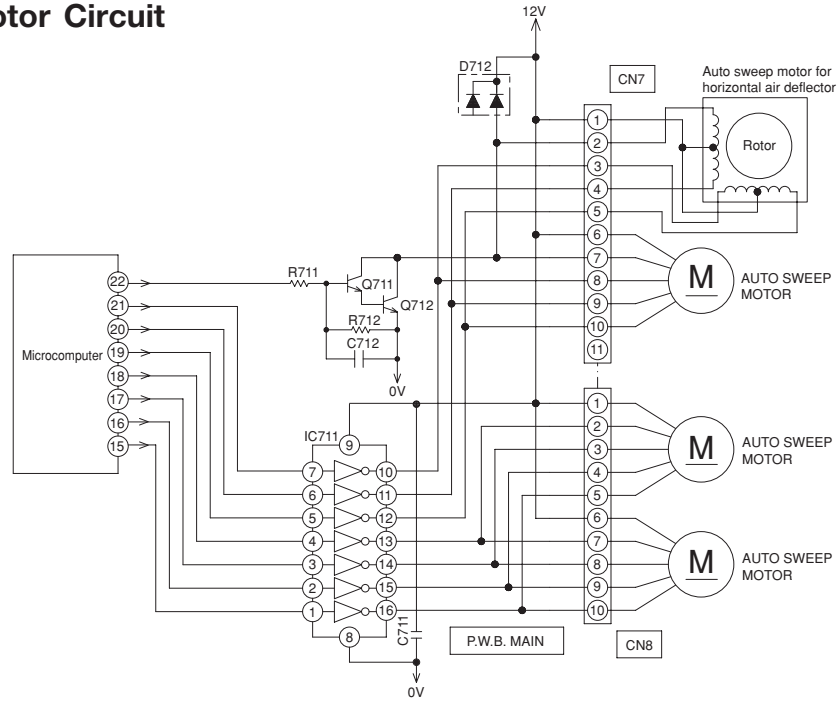
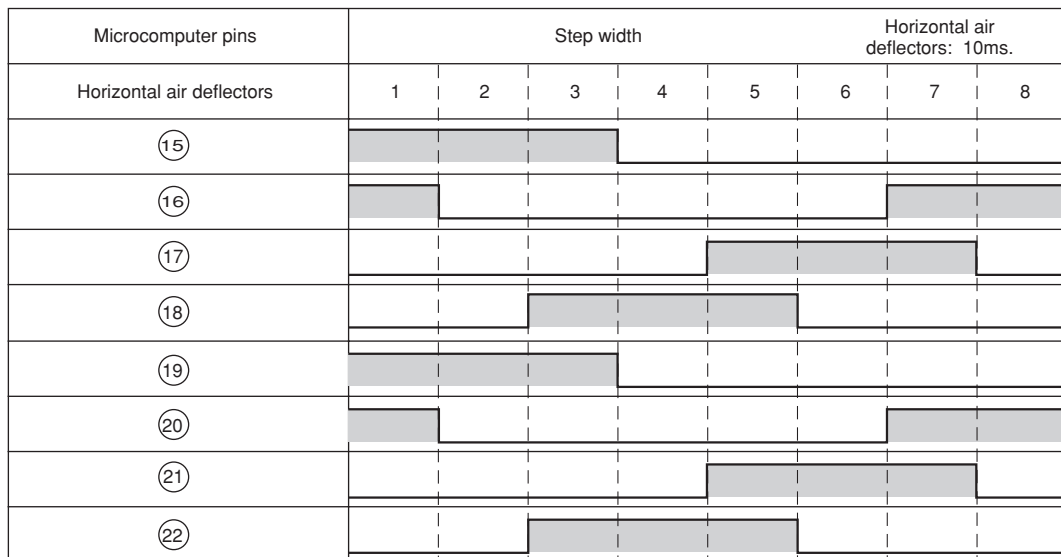

Fig.4-1
Fig.4-2 Microcomputer Output Signals
- Fig. 4-1 shows the Auto sweep motor drive circuit; the signals shown in Fig.4-2 are output from pins ⑮ – ㉒ of microcomputer.
- As the microcomputer's outputs change as shown in Fig.4-2, the core of the auto sweep motor is excited to turn the rotor. Table 4-1 shows the rotation angle of horizontal air deflectors.